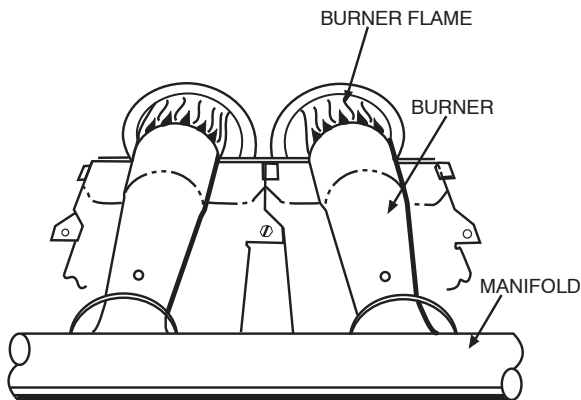

Fig. 10 - Monoport Burner
1. Inspection of all flue product passages-including the burners, heat exchanger, and flue collector box, Make sure the burner flames are blue in color and in proper adjustment. Refer to Fig. 10 for burner flame.